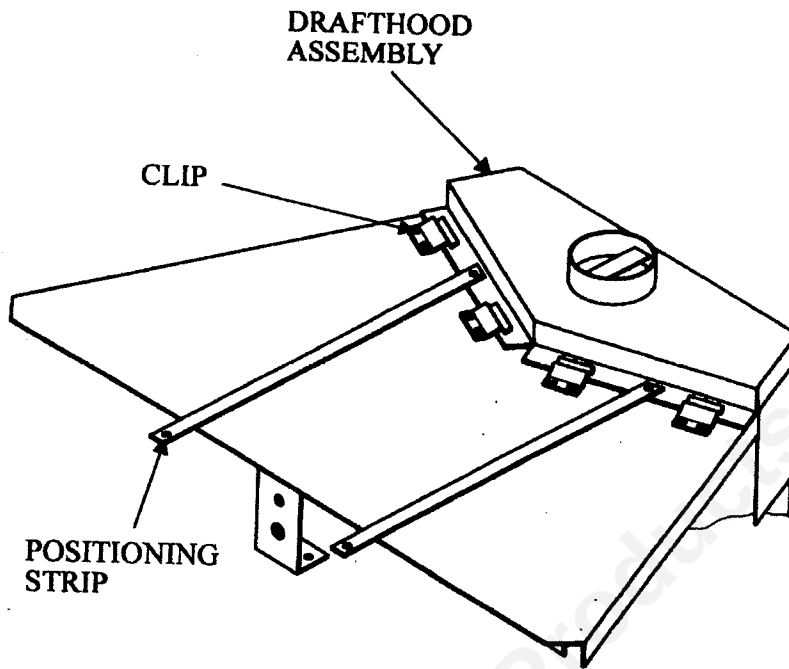

Figure 11 Draft Hood Mounting
8. Push the heater back until the front firebox flanges are 1/4" (6mm) in front of the masonry or factory built fireplace facing, or flush with the zero clearance enclosure. As the heater is pushed back, pull the drafthood positioning strips firmly toward the heater front until the drafthood flange is secured under the top clips of the heater as shown in Figure 11.